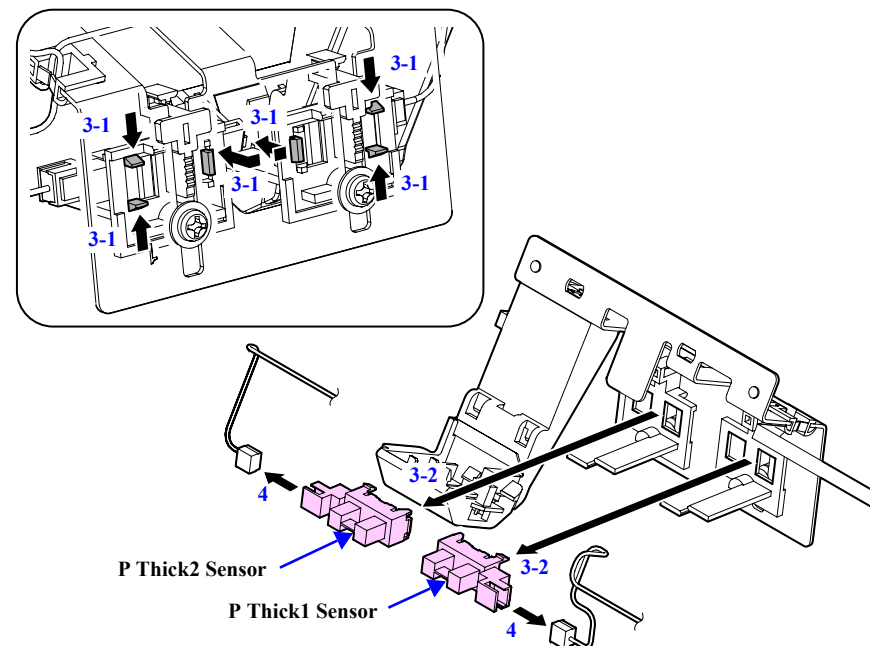

Figure 4-94. Removing the P Thick1 Sensor and P Thick2 Sensor
3. Release the three tabs that secure each of the P Thick1 Sensor and the P Thick2 Sensor and remove the two Sensors. *See Figure 4-94.*
*See Figure 4-94.*